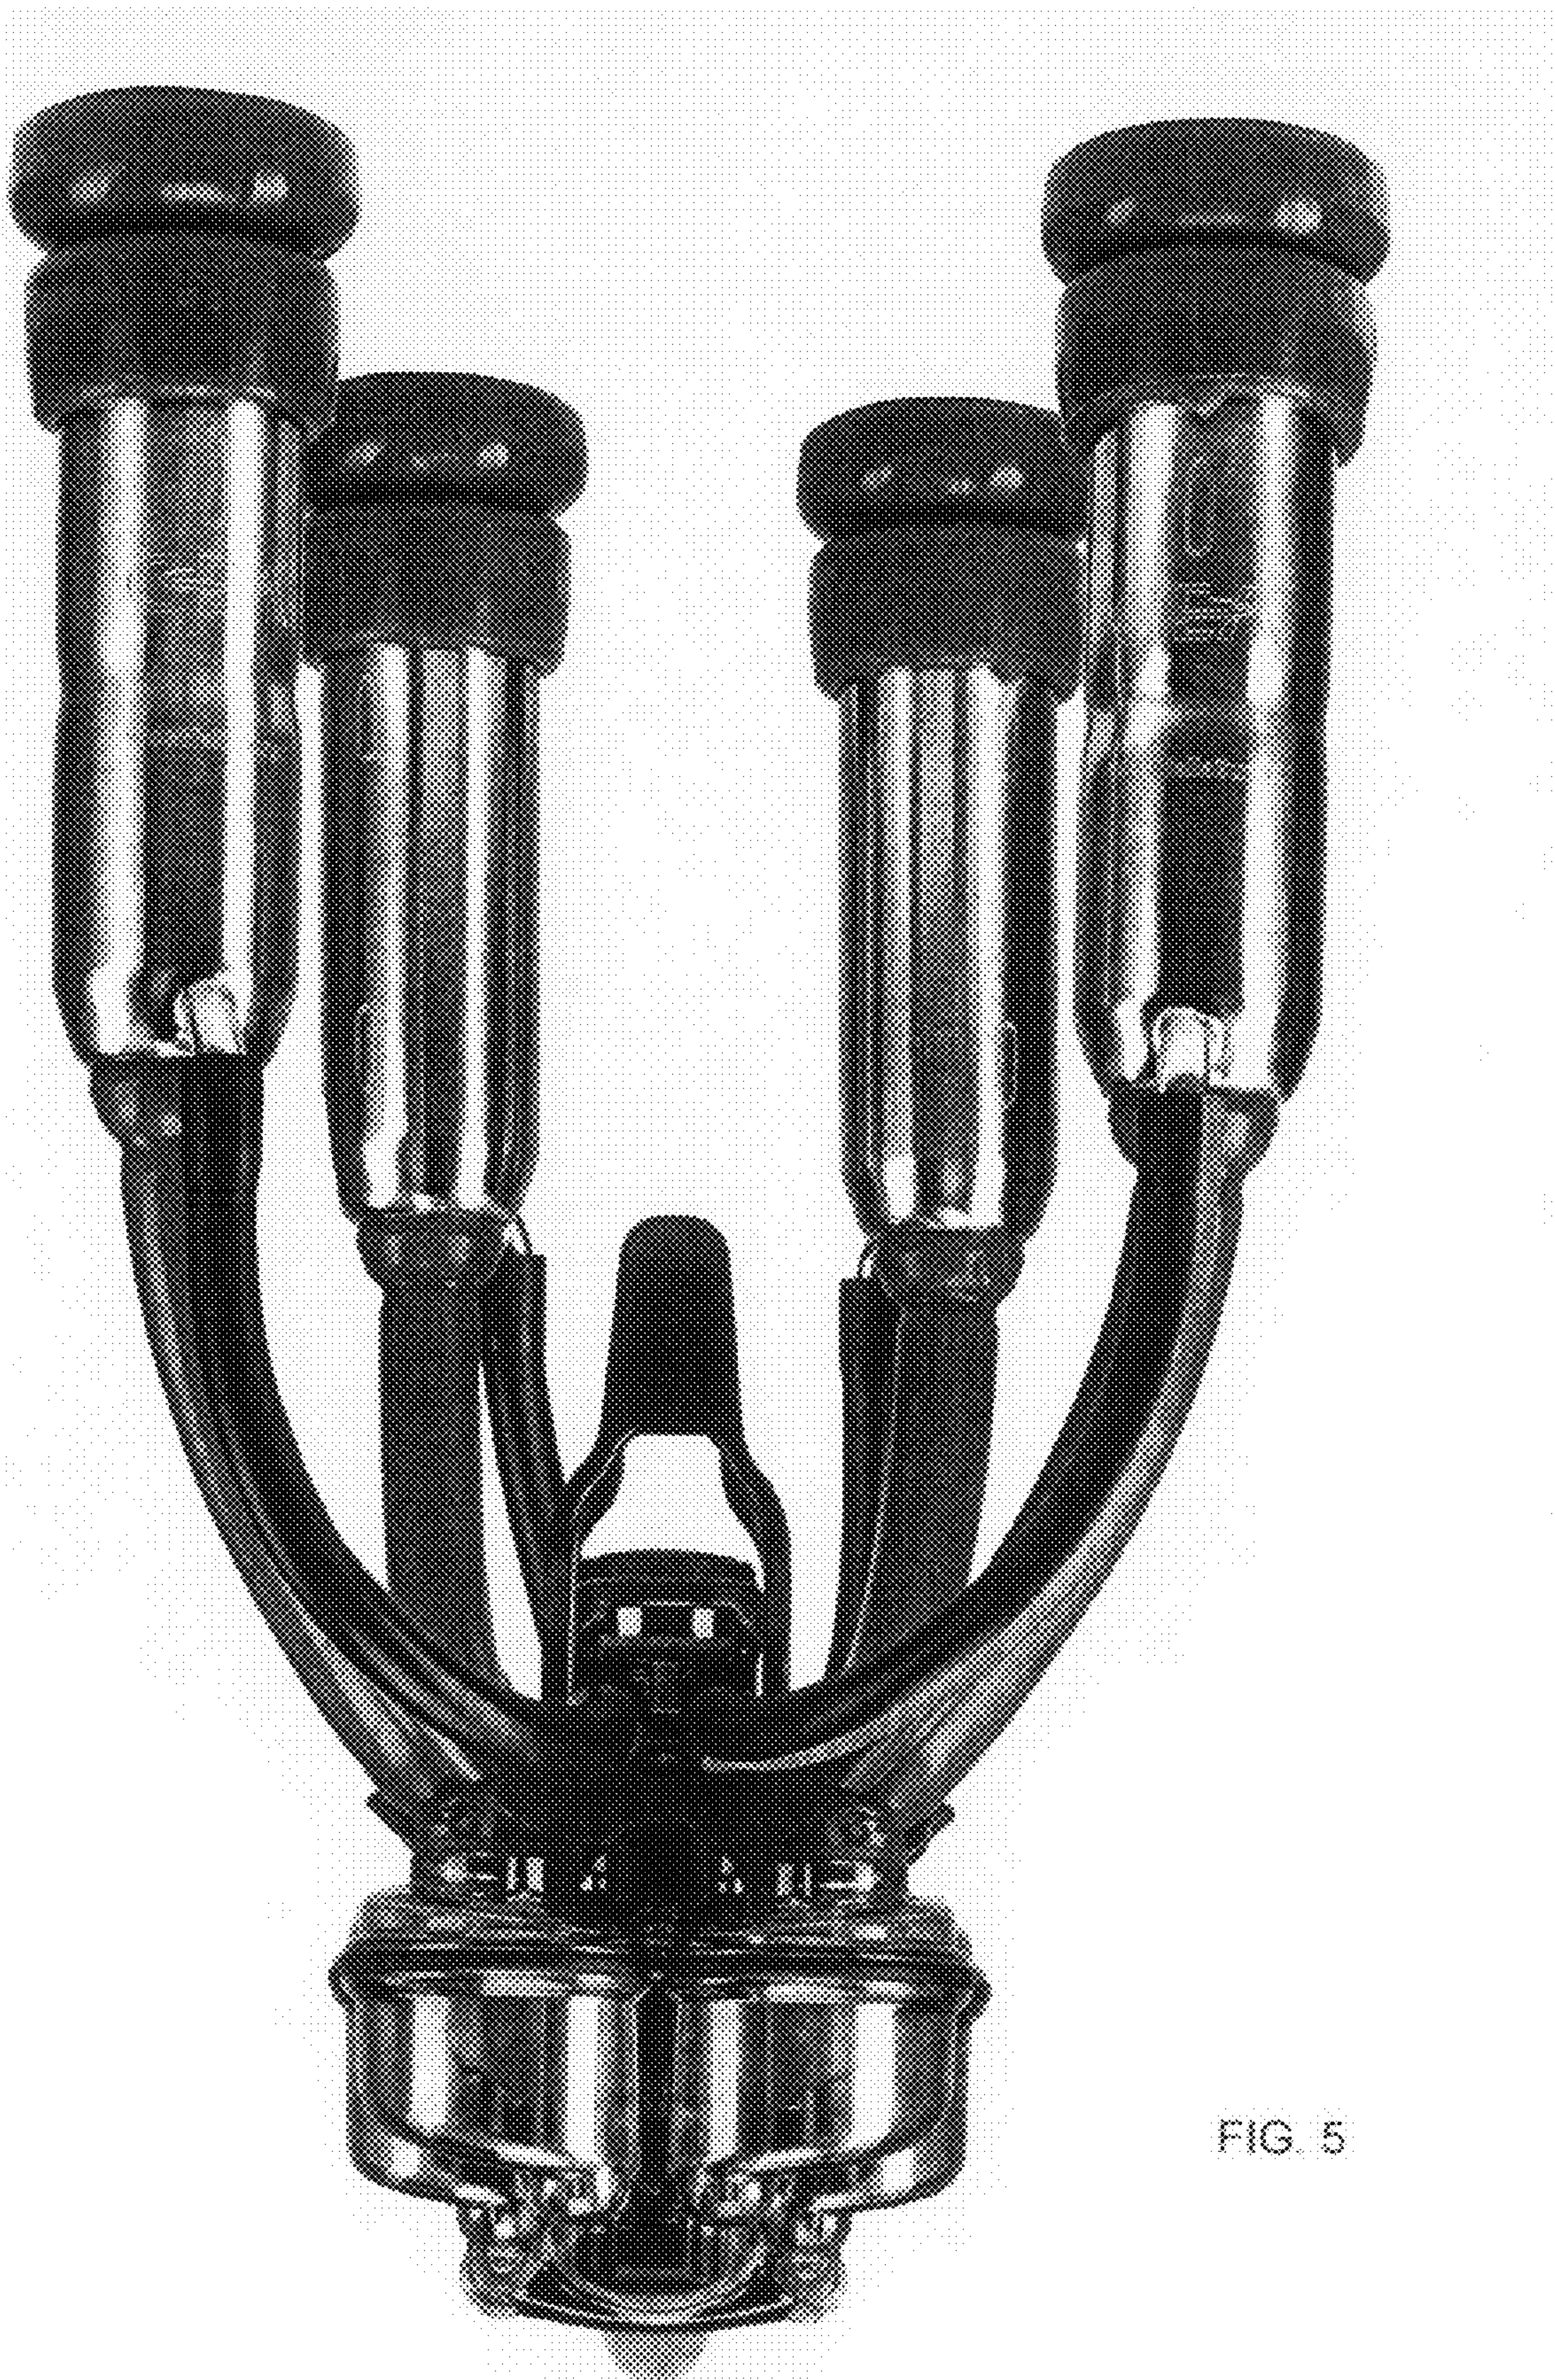

FIG. 5
- FIG. 5 is a rear elevational view of the milking machine;